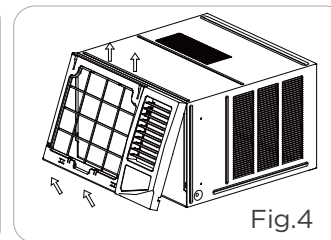

Fig.4
2. Disconnect the coupler plugs and make sure not to interfere with the temperature sensor cable. Hold the left bottom side of the frame, lift it up to unlatch the lower side, remove it toward you(See Fig. 4)